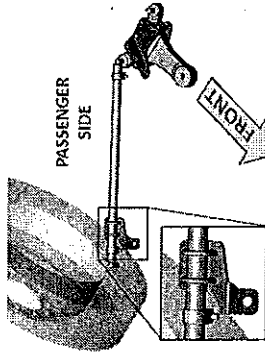

Figure 3
- Loosely install USI-1014 on the end of the passenger tie rod using the 1-5/8" U-Bolt Kit (12-38-1525K). The bracket should be on the underside of the tie rod with the 3/4" bolt hole facing towards the front of the vehicle (Figure 3).
5. For the person outside of the vehicle, gain access to SAFE T PLUS® unit. Using a socket wrench with a 9/16-inch socket, and loosen Flanged Lock Nuts on Tie-Rod Bracket U-Bolt and allow the SAFE T PLUS® unit to freely move to its centered position. Once the SAFE T PLUS® unit rests at its centered position, using a torque wrench with a 9/16-inch socket, torque Tie-Rod Bracket Flanged Lock Nuts to 20 foot pounds (Figure 3).
6. Repeat road test until vehicle is able to maintain a straight trajectory. If centering the SAFE T PLUS® unit requires more than 2 or 3 attempts, please contact our technical support team at (770) 322-8727 for further assistance.